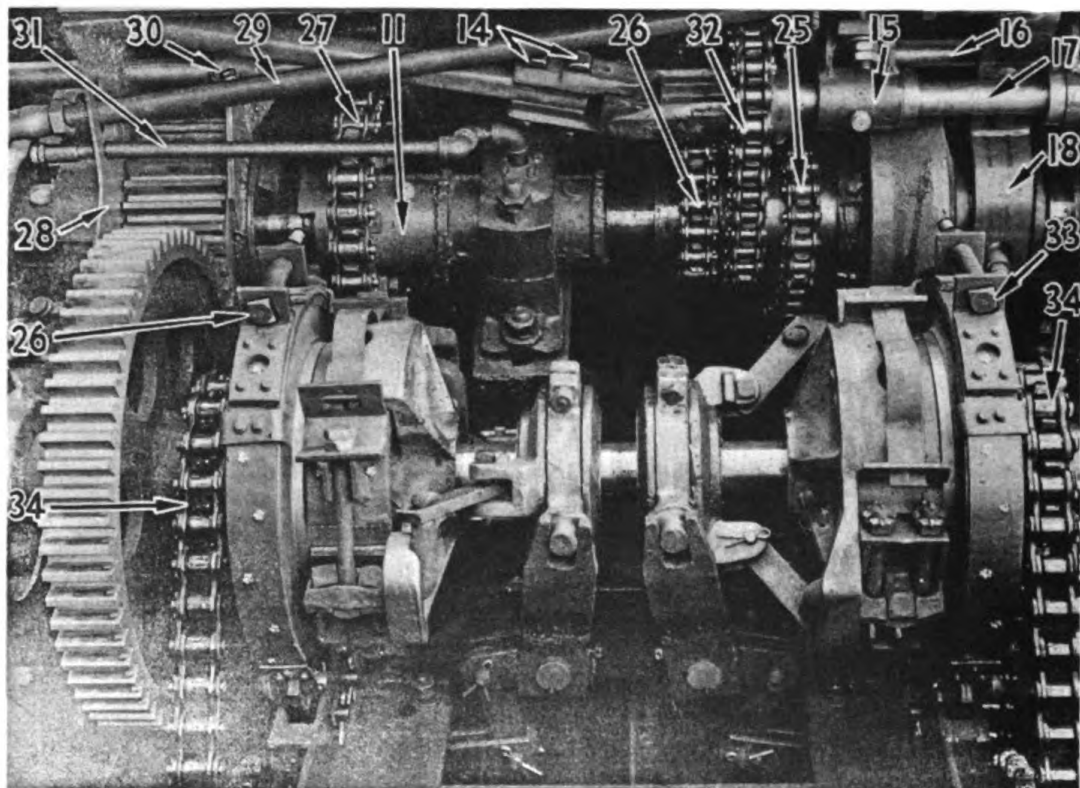
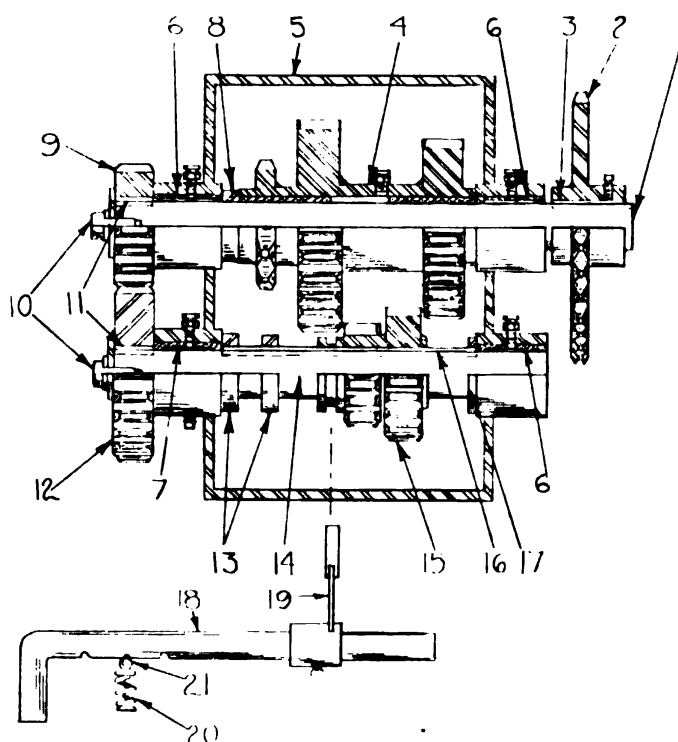

Figure 102. Main jackshaft
Figure 103. Gear box.
(d) Uncouple chain (32) Figure 102, which transmits manual power to hoist from hand wheel, take out bolts (14) to remove hoist hand wheel and shaft. Take out the two bolts in bearings (15) and cotter on inside end of shaft (16). Pull out shaft (16) and idler shaft (17) with bearings.
The change gears (9) and (12) Figure 103, could be replaced anytime by installing new gears, this operation being the same as changing gears for a different speed.
(a) Uncouple the chains (26) and (27) Figure 102, which run to and from the gear box. The bolts which hold the gear box in place may be removed, along with the guards over the change gears and the drive sprocket (2) Figure 103. The entire unit may be taken off the machine.
- (b) Disconnect chains (34) Figure 102, if they are not loose enough to permit lifting shaft about $\frac{1}{2}$ ".